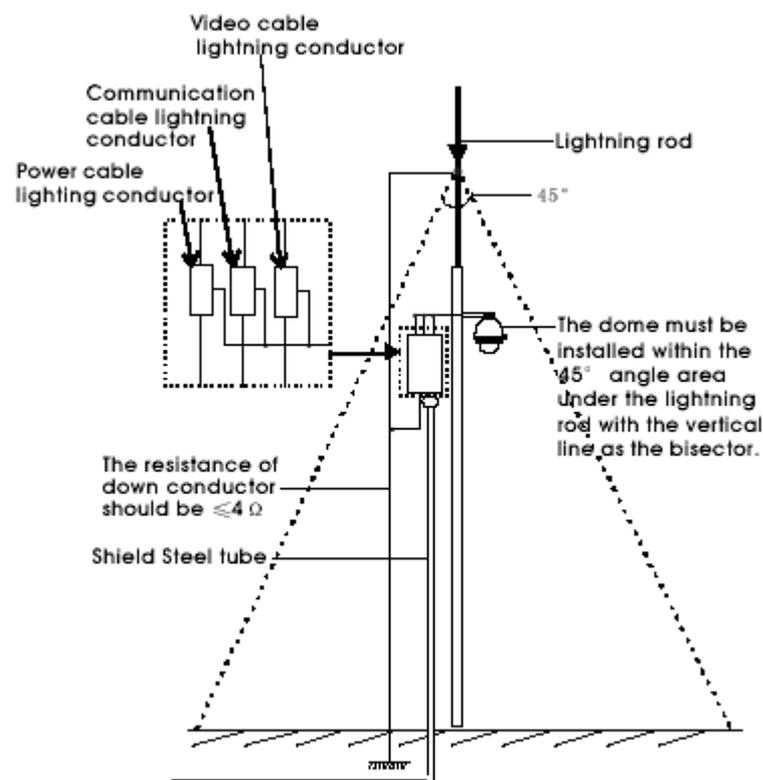

Figure 26
- | The system must be grounded with equal potentials. The earth ground connection must satisfy anti-interference and electrical safety requirements and must not short circuit the high voltage electricity network. When the system is grounded separately, the resistance of the down conductor should be  $\leq 4 \Omega$  and the sectional size of the down conductor should be  $\leq 25\text{mm}^2$  (refer to Fig 26).